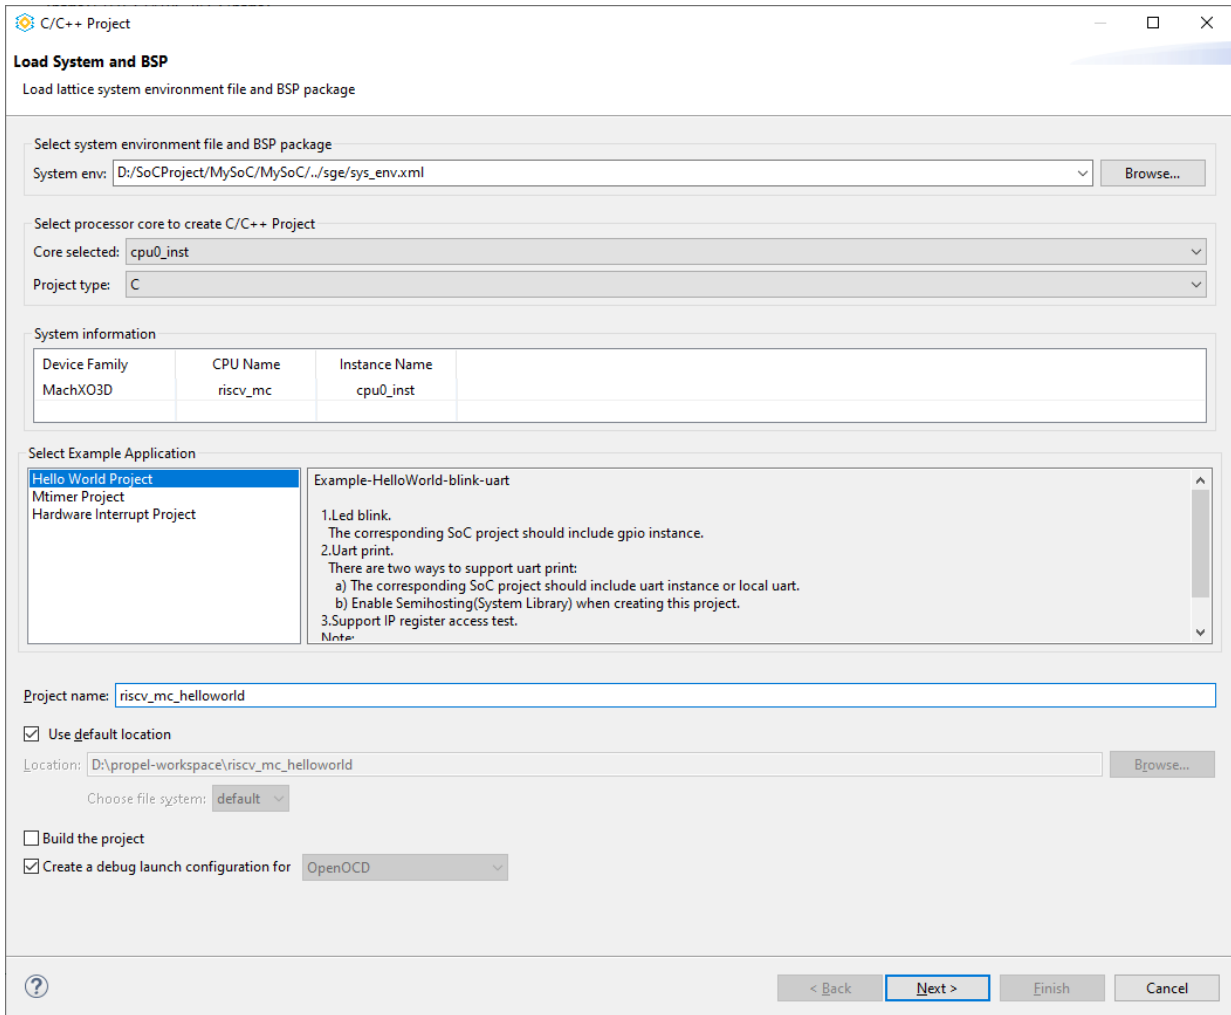

Figure 6.11. Creating a C/C++ Project
2. In Lattice Propel SDK, set the workspace. In the C/C++ project creation page (Figure 6.11), select **Hello World Project**.